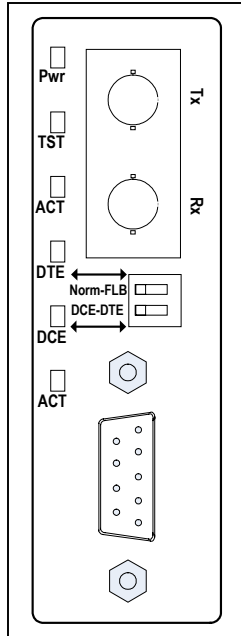

Figure 2. LED Indicators
4.1 Multimode and single-mode RS422/485 cards are equipped with two ST or SC female optical connectors. Connect fibers to the Transmit (TX) and Receive (RX) optical connectors. The TX optical on the CO Card must be connected to the RX on the SUB Card. See Figure 2.